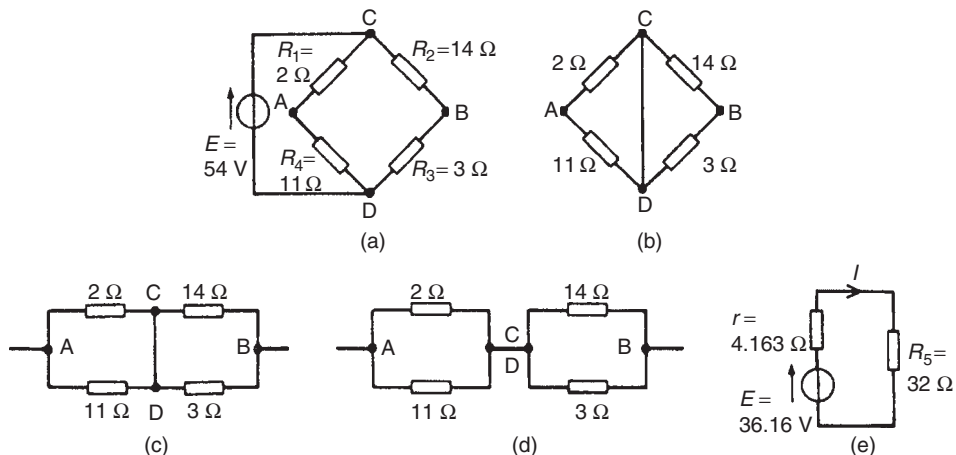

Figure 13.48
- (i) The 32 Ω resistor is removed from the circuit as shown in Fig. 13.48(a)
- (iii) Replacing the source of e.m.f. with a short-circuit (i.e. zero internal resistance) gives the circuit shown in Fig. 13.48(b). The circuit is redrawn and simplified as shown in Fig. 13.48(c) and (d), from which the resistance between terminals A and B,
- (iv) The equivalent Thévenin's circuit is shown in Fig. 13.48(e), from which, current